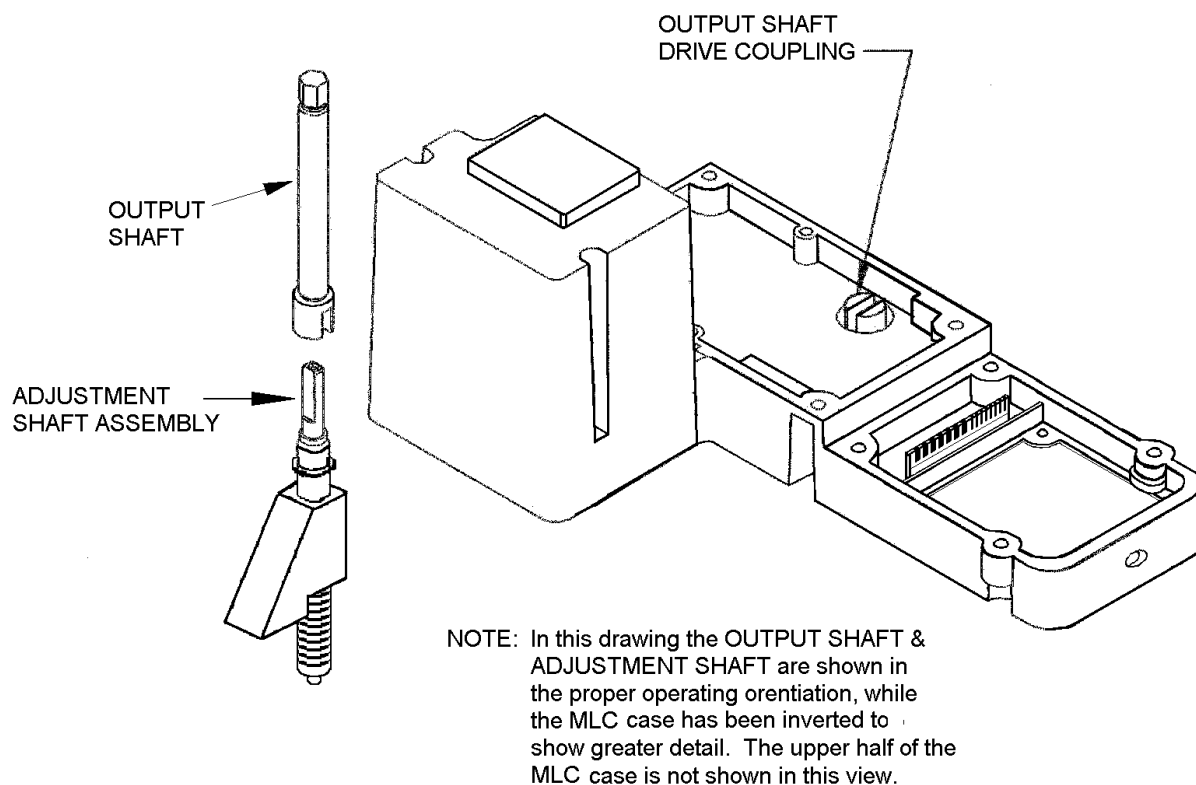

Figure 22 – MLC/Eccentric mating components
6. Note the position of the adjustment shaft 'flats'. They mate with a slot in the MLC output shaft. Familiarize yourself with these mating components prior to installation (Refer to *Figure 22*).